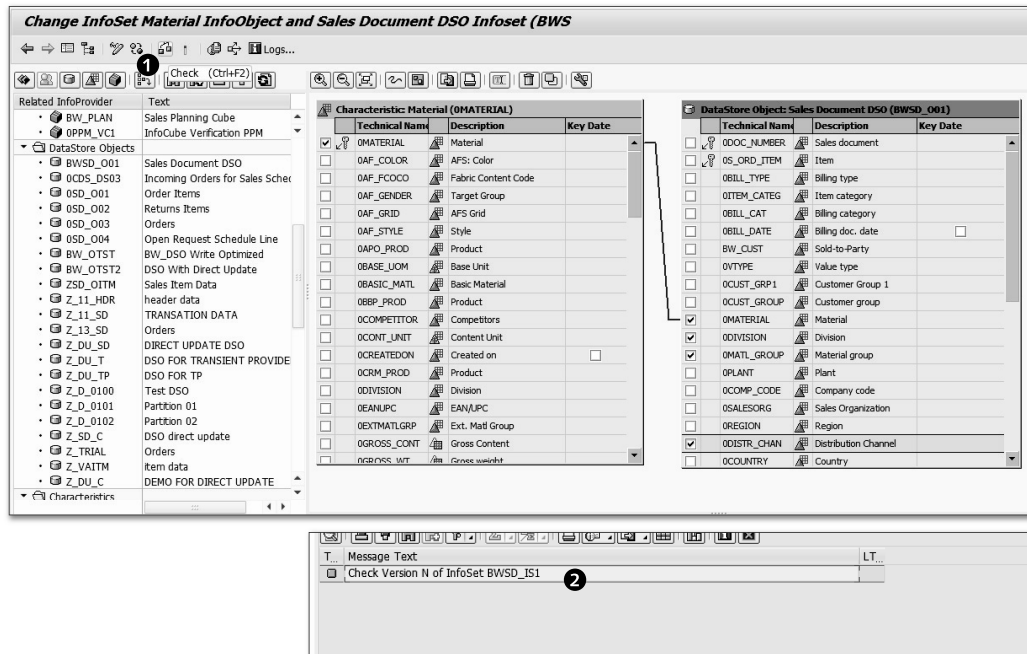

Figure 6.26 Checking the Definition of an InfoSet
Now check the definition using the CHECK icon , as shown in ❶ of Figure 6.26.
Checked messages are available at the bottom of the screen, as shown in 2 of Figure 6.26. Because the checking of InfoSet BWS0_IS1 hasn't resulted in any error messages, we can now activate the InfoSet definition in the SAP BW system.